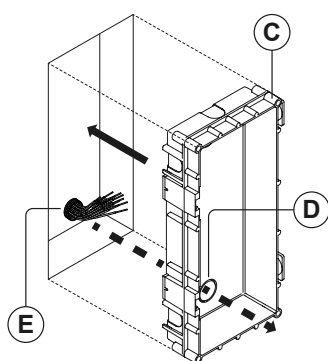

Fig. 66
3. Set the flush box (C) into the hole in the wall feeding the connecting cables (E) through the appropriate flush box hole (D), as shown in **Fig.66**;